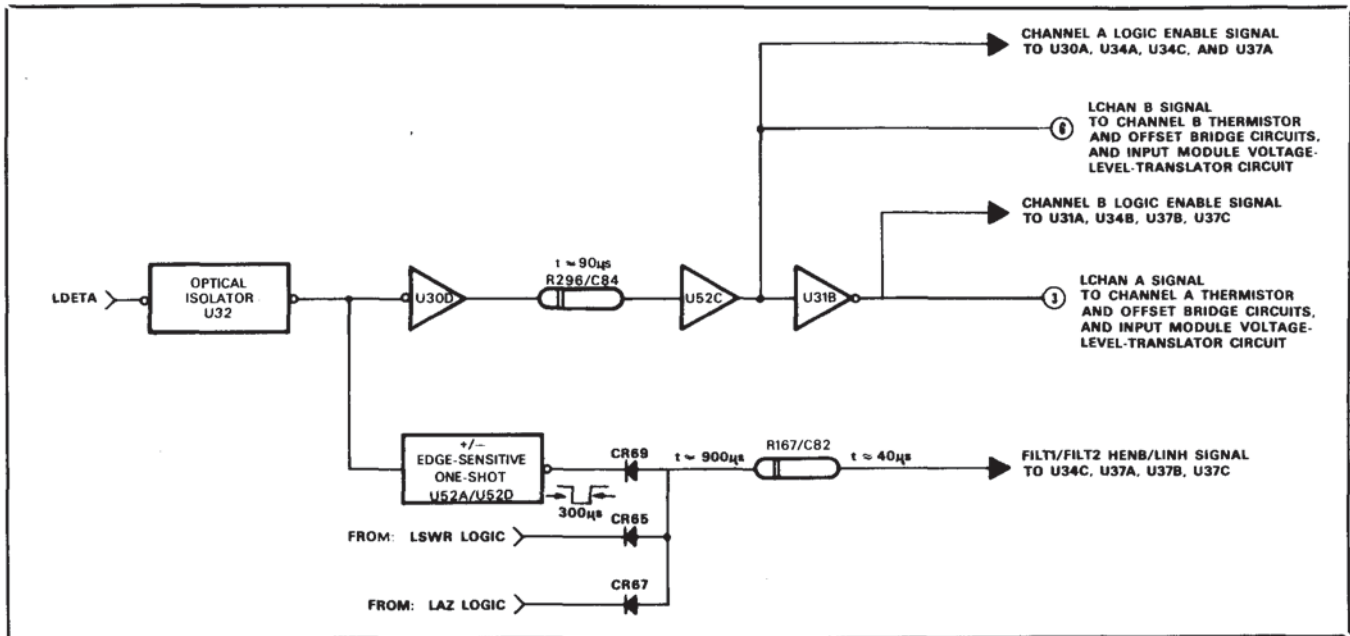

Figure 7-46. Channel A or B Demultiplexer Logic Circuit, Simplified Schematic
- a. Channel A&B Demultiplexer Logic Circuit. This circuit demultiplexes the LDETA (channel-select) control line to create individual Channel A and Channel B control signals. The circuit also triggers a one-shot multivibrator whose output pulse inhibits logic gates in the smoothing logic circuit. A simplified schematic of this circuit is shown in Figure 7-46.
The LDETA control line, (Figure 7-46), which is LOW when Channel A is selected (paragraph 7-7. 12) and HIGH when Channel B is selected, is applied to optical isolator U32. U32 optically couples the LDETA signal to inverter U30D and the  $\pm$  edge-sensitive one-shot multivibrator circuit consisting of EX-OR gates U52A and U52D.